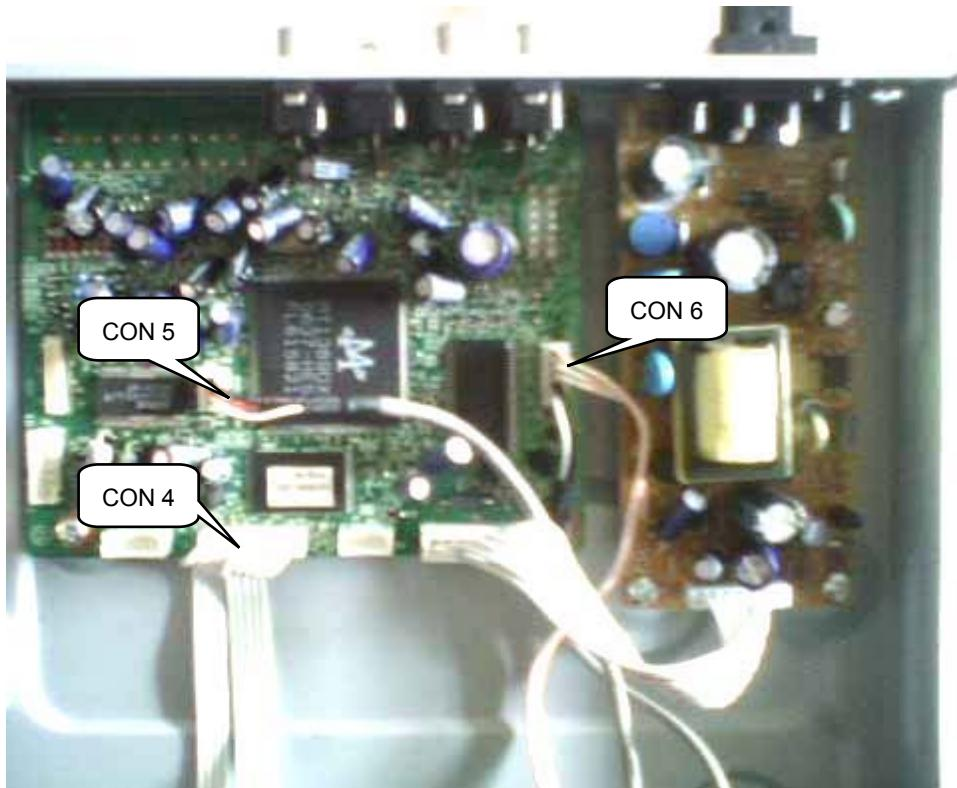

Figure 5
**Step5:** Dismantling Front Panel, disconnect the 3 connector, then release the snaps on the both sides of Front Panel and bottom cabinet , then gently pull the Panel out from the set. (Figure 5 & 6 & 7)